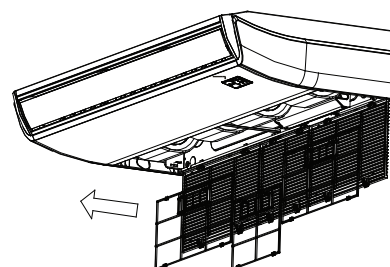

Fig.6-3
- Directly pull out the air filter from air inlet as indicated in Fig.6-3.
- Re-install the air filter in the reverse order of Fig.6-3.